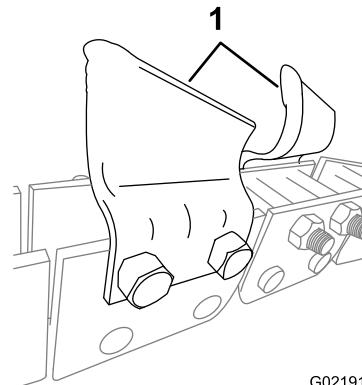

Figure 22
- **Cupped teeth** (Figure 22) are the best for cutting through light to medium soil. The cupped design of the tooth cuts through the soil and then moves it up and out of the trench.